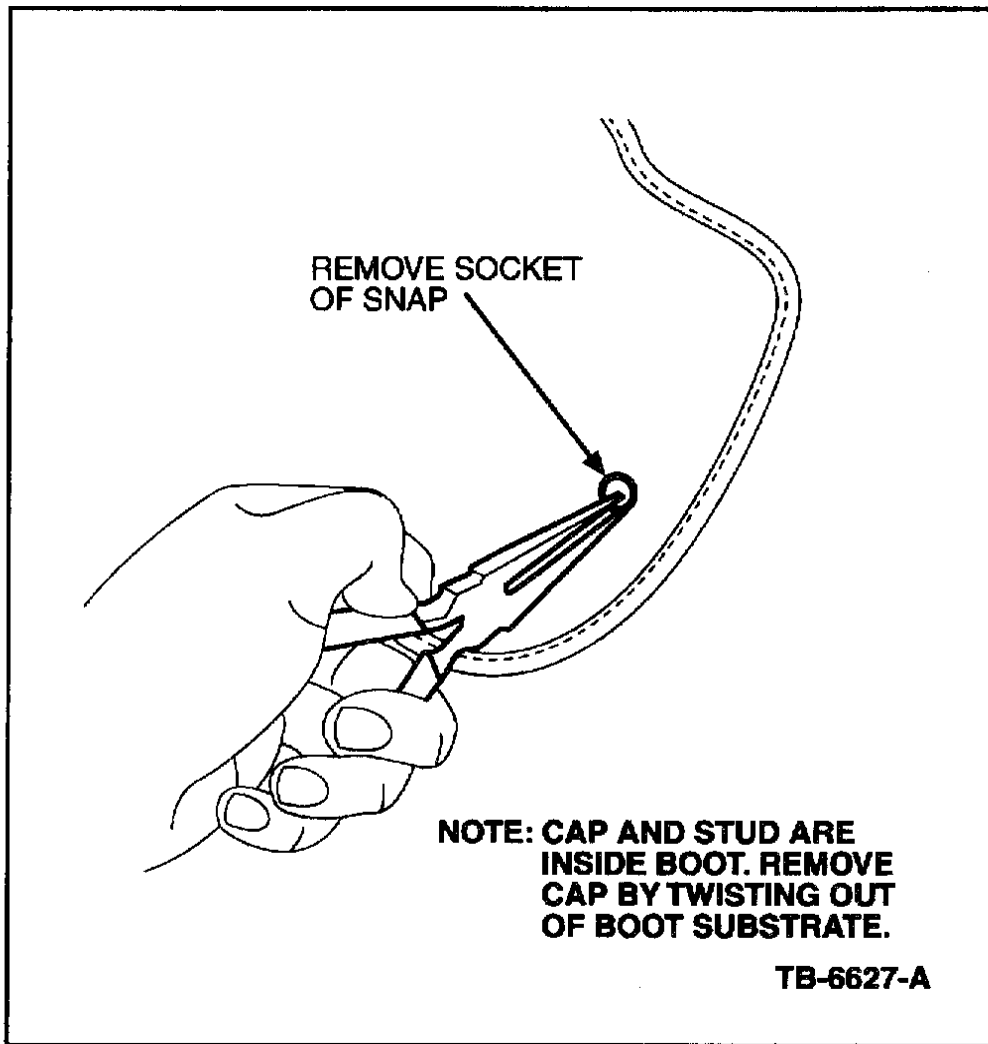

Figure 1
1. Using a pair of pliers, remove the socket of the snap, located on the convertible boot (Figure 1).